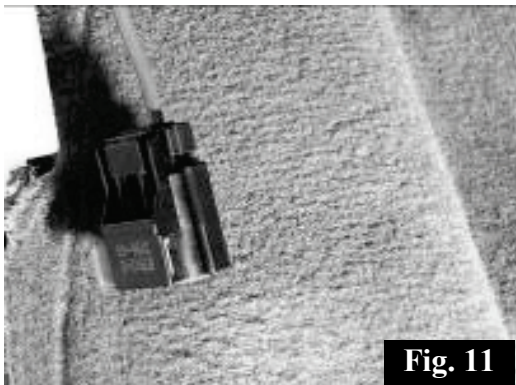

Fig. 11
25. Install the supplied two pin connector by inserting the terminal on the end of the power wire into the back of the connector until it clicks and locks. Fig. 11